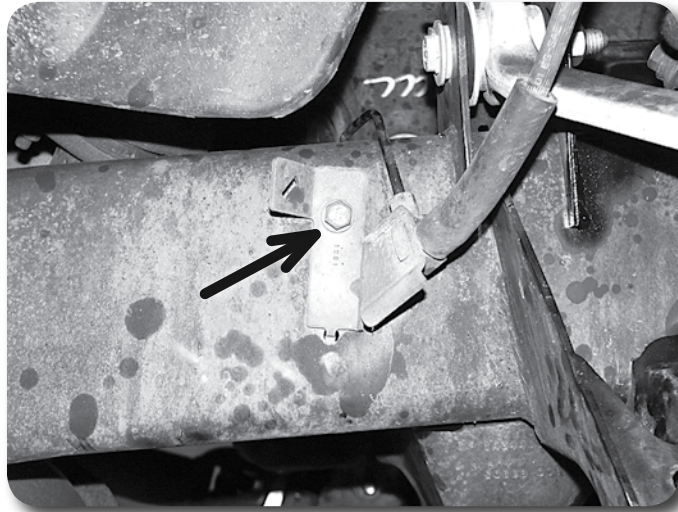
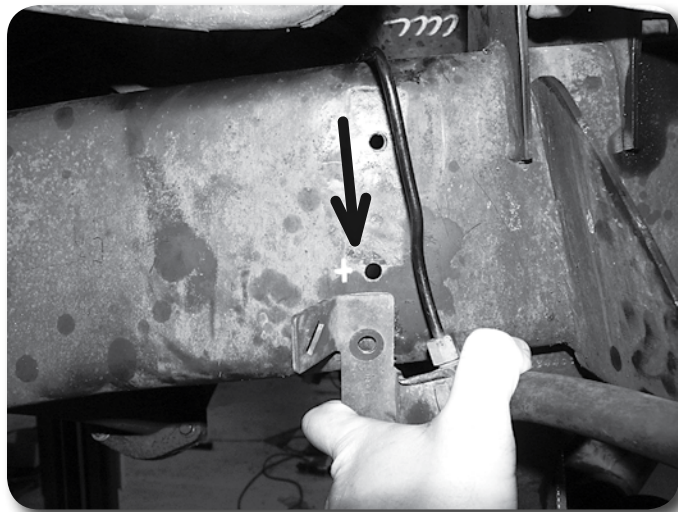

Figure 31A
Figure 31B
54. Passenger's side brake line: Remove the bolt retaining the line bracket to the frame **Figure 31A**. Carefully reform the hard line so that the mounting bracket can be lowered approximately 3" (remove the hard line from the retaining clip on the inside of the frame rail). Measure back 1/2" from the lower existing hole in the frame and drill a 17/64" hole **Figure 31B**. Attach the brake line to the new hole with the provided 5/16" x 1-1/4" self-tapping bolt. Ensure that the hard line is properly routed.